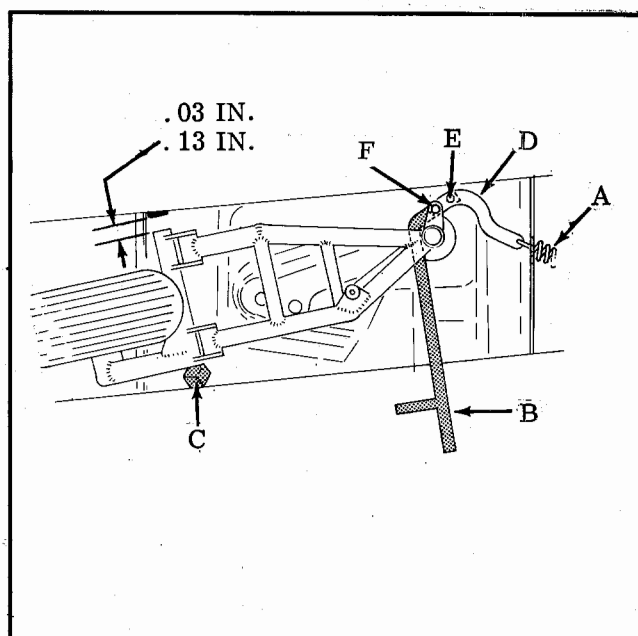
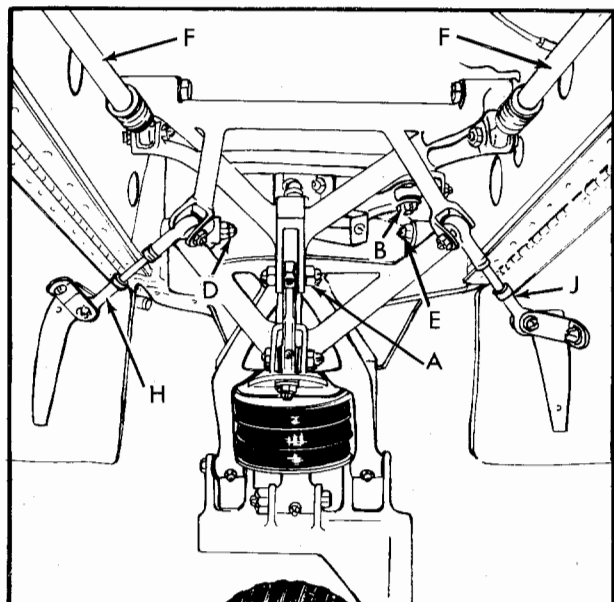
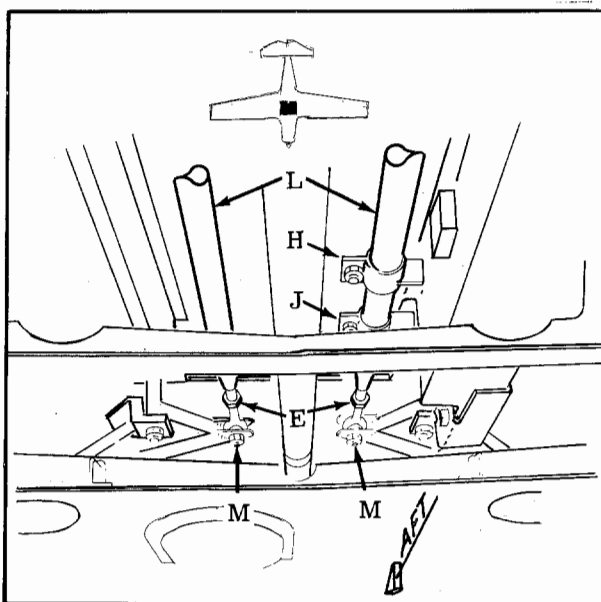
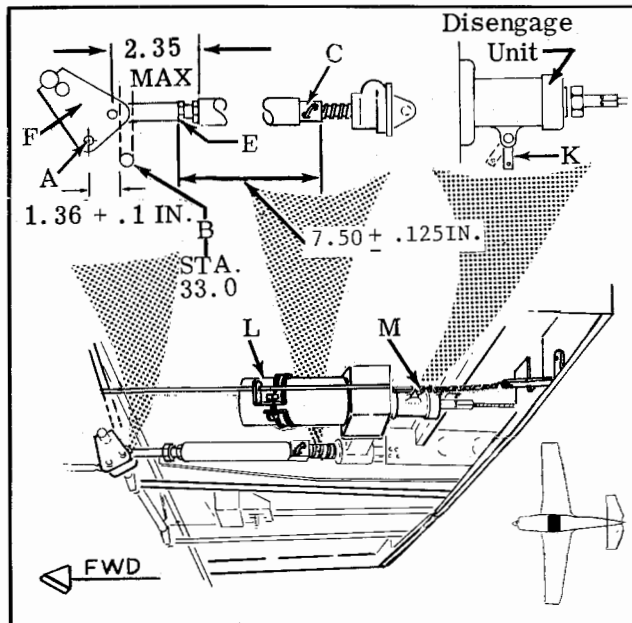

Figure 5-1. Gear Retraction Spring Removal
Figure 5-2. Nose Gear Retraction Tube Adjustment Points
Figure 5-3. Main Gear Retraction Tube Adjustment Points (Electric Gear)
Figure 5-4. Electric Gear Actuator Adjustments (Other than Avionic Products Actuator).
7. Retract the gear by hand until a 2 inch thick wood block (C), Fig. 5-1 can be inserted as shown to hold gear in retracted position.
connecting link (F) Figure 5-1.
b. Remove gear retraction spring (A) at (F) Figure 5-1, by attaching spring installation tool (B), P/N GSE 030012, (old P/N was 8186) using an AN3-12A bolt (E).
5. Disconnect link (A) on nose gear truss assy (Figure 5-2).
6. Disconnect nose gear steering horn link B (Figure 5-2).
7. Remove left and right gear mounting bolts D and E (Figure 5-2) from tubular structure and nose gear truss assy.
2. Partially retract gear (Refer to paragraph 5-2, item 2). Disconnect main gear retraction tubes (L), Figure 5-3 at inboard bellcranks (M). Loosen locknuts (E). Disconnect nose gear retraction tubes (F), Figure 5-2 at the retraction bellcrank (F) Figure 5-4.
3. Adjust Heim end bearing on actuator stud so that the Heim threaded end is 7.50 inches $\pm$.125 inch from the far end of ball nut C (Fig. 5-4). NOTE: Heim bearing is locked in position with a set screw extending into a slot in the actuator stud. Set screw must be removed prior to making any adjustment.
4. Position retraction bellcrank F (Fig. 5-4) so that center of forward hole A in left outboard arm of the bellcrank is $1.36 \pm .1$ inches from forward face of truss B at FUS. STA. 33.0 (Fig. 5-4). This can be accomplished by engaging the emergency gear extension system hand crank and turning to position the bellcrank.
5. With bellcrank in position (Ref. Para 4) and gears fully extended and overcenter, adjust main gear retraction tube rod ends E (Fig. 5-3) and nose gear retraction tube at rod ends (F).
7. With bellcrank, retraction tubes, and the gear positioned as indicated in step 5, set down-limit switch striker arm (J) Fig. 5-3 so that gear-down light switch is just closed and green gear-down light is on. Secure striker arm in position.
8. Use manual crank to partially retract gear. Screw rod end (E) Fig. 5-3 on aft end of each main gear retracting tube, out two full turns, then slip attaching bolts back in place.
17. Leave all gear doors disconnected, and run gear up electrically (refer to para. 5-18) until main gear each side is .13 to .03 inches from bumper pads (see Fig. 5-1). Position gear-up limit switch striker arm (H) Fig. 5-3 so that the switch is just closed and the red in-transit light goes out. Secure striker arm in position. The gear is now properly rigged in the gear-up position with allowance for overrun after cutoff.
Rigging of Manual Emergency Landing Gear Disengage Unit as Follows (Ref. Fig. 5-4):